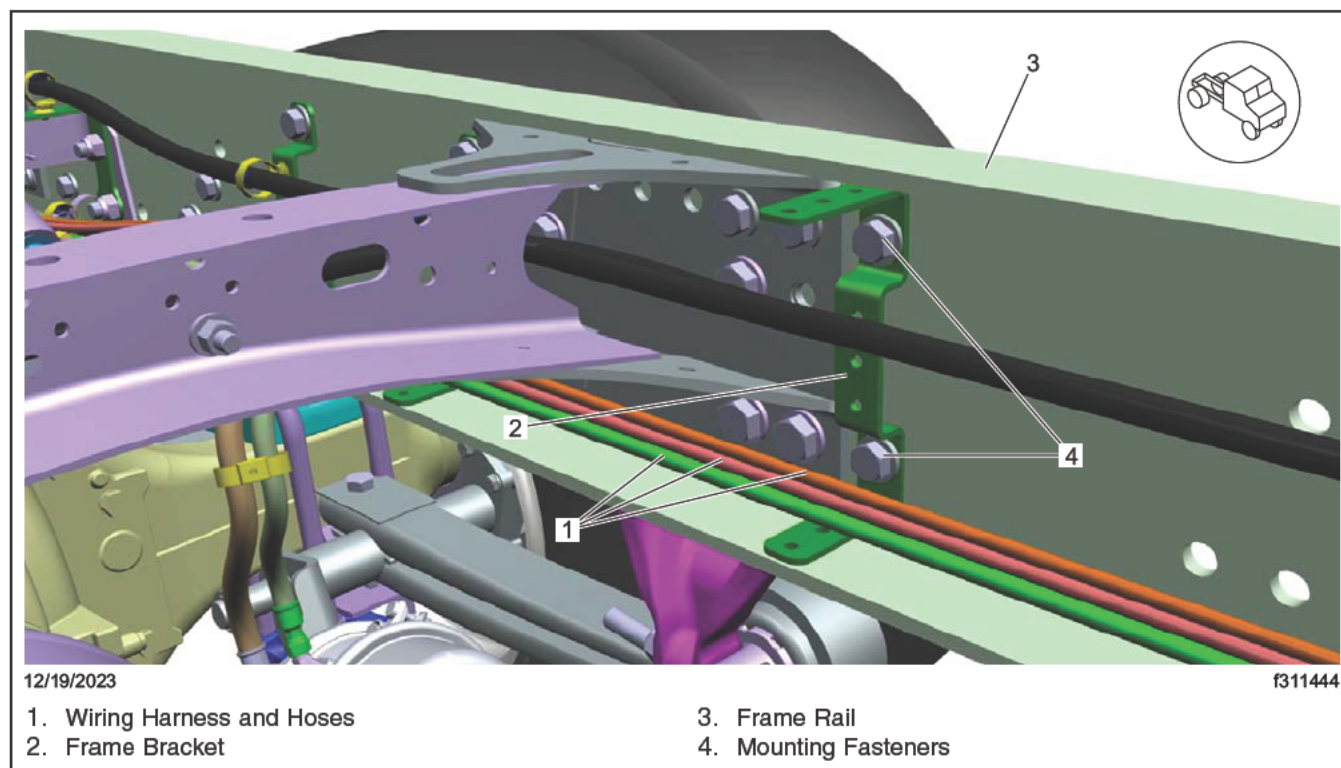
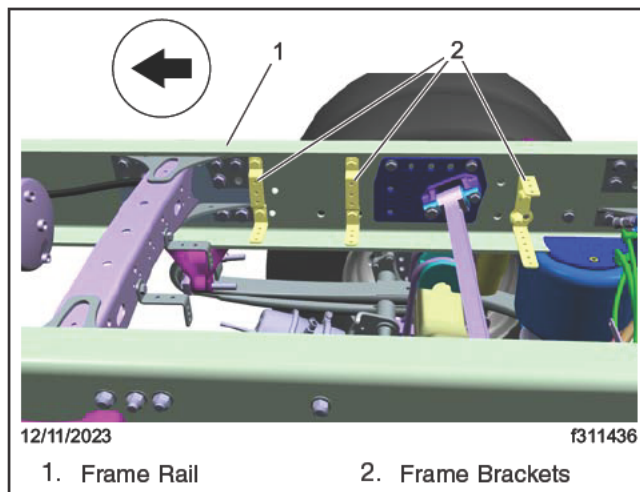

Fig. 3, Left-Hand Side Frame Brackets
Fig. 4, Right-Hand Side Frame Brackets
6. Remove the mounting fasteners that attach the brackets to the frame rails, then remove the brackets. See Fig. 3 and Fig. 4.